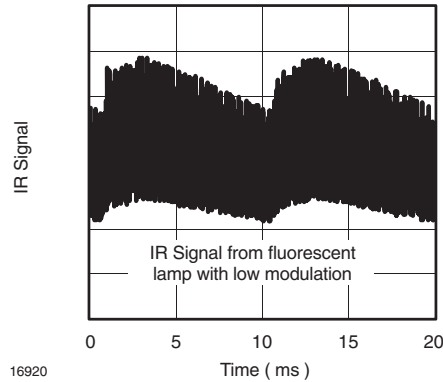
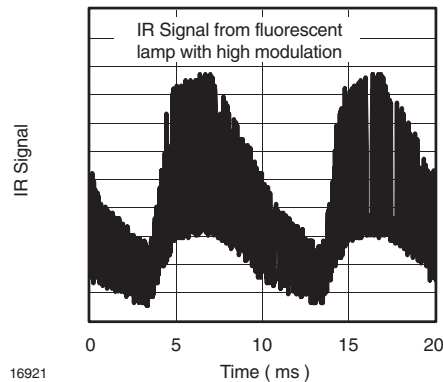

Figure 14. IR Signal from Fluorescent Lamp with low Modulation
Figure 15. IR Signal from Fluorescent Lamp with high Modulation
- Signals from fluorescent lamps with electronic ballast with high or low modulation (see Figure 14 or Figure 15).